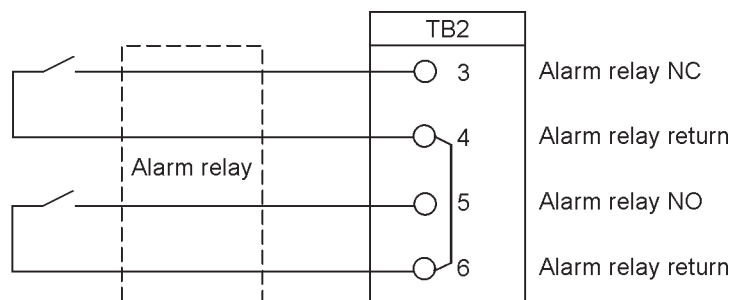
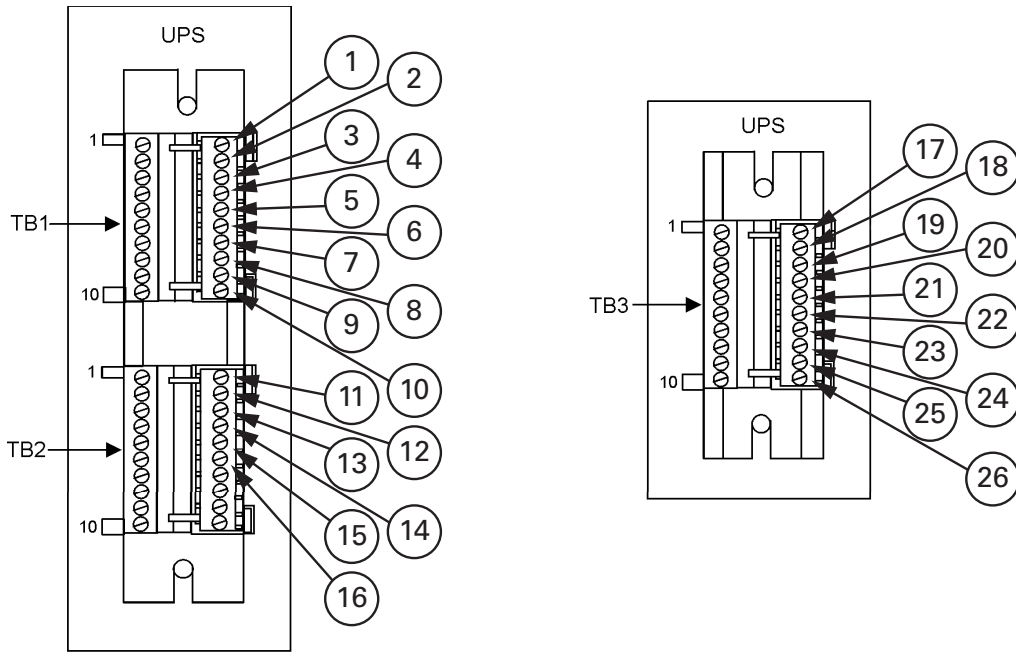
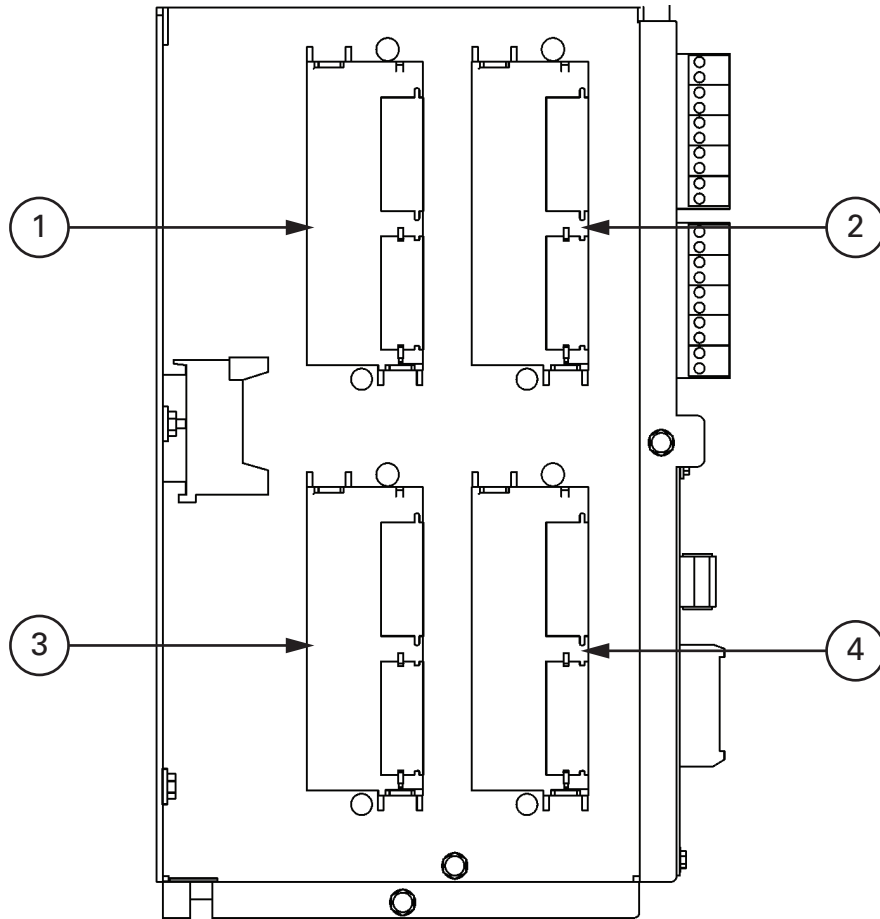

Figure 4-8. Typical alarm relay connection
Figure 4-10. Terminal blocks TB1, TB2, and TB3 connector assignments
Figure 4-12. X-Slot communication bays
7. To locate the appropriate terminals and review the wiring and termination requirements, see Section 3.2.3 on page 33, Table 4-1 on page 57, and Figure 4-8 through Figure 4-10.
For TB1, TB2 and TB3 connector assignments, see Figure 4-10 and for detail AA, see Figure . The X-Slot communication bays are illustrated in Figure 4-12.
5. Route and install the LAN, telephone, and other cables to the appropriate X-Slot cards. See Figure 4-9 on page 53 and Figure 4-12 for X-Slot location.
4. To gain access to terminal blocks TB1 and TB2 and the interface entry plates, loosen the screws securing the protective cover panel and remove the panel. This panel is to the right of the X-Slot communication bays (see Figure 4-12 on page 59).
7. To locate the appropriate terminals and review the wiring and termination requirements, see Table 4-1 on page 57, and Figure 4-10 through Figure 4-12.
6. Install the HotSync CAN Bridge Card into an open X-Slot communication bay on the front of the UPS. See Figure 4-10 on page 55 and Figure 4-12 on page 59 for X-Slot communication bay locations.
3. Terminal block TB3 is accessible on the left side of the X-Slot communication bay (see Figure 4-9 on page 44). To gain access to terminal block TB1, TB2, and the left interface entry conduit landing plates, loosen the screws securing the top protective cover panel and remove the panel. This panel is to the right of the X-Slot communication bay (see Figure 4-12 on page 59). Retain the hardware for later use.
6. To locate the appropriate terminals and review the wiring and termination requirements, see Section 3.2.3 on page 33, Table 4-1 on page 57, and Figure 4-10 on page 55 through Figure 4-12.